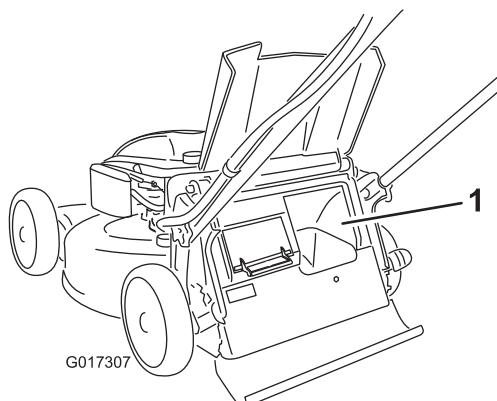

Figure 17
**Important:** For proper operation, remove any grass clippings and debris from the bag-on-demand door and the surrounding opening (Figure 17) before you move the bag-on-demand lever from one position to another.